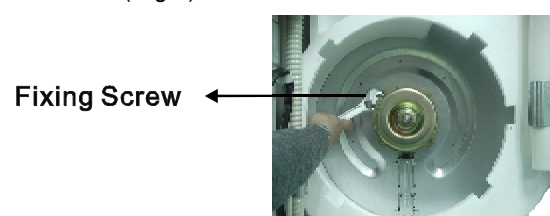

Fig 8
4. Loosen the fixing screws of the fan motor to remove the fan motor.(Fig 8)